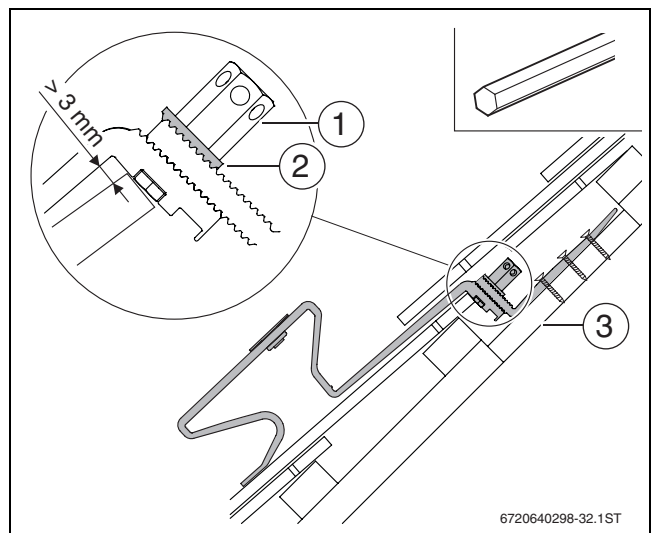

Fig. 24
- ▶ Where required, secure boards/planks with adequate load-bearing capacity on the rafters (→ Fig. 24 [3]). Where required, remove counter battens from this area.